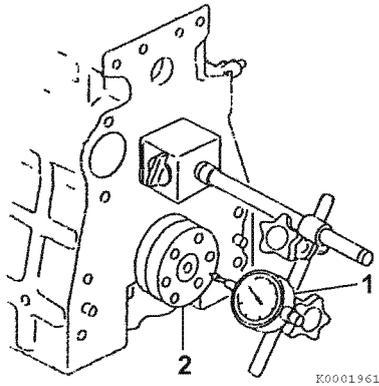

Figure 6-62
- Method A:** Install a dial gauge (1, **Figure 6-62**) on the cylinder block. Move the crankshaft (2, **Figure 6-62**) in and out to measure the end play. Record the measurement.